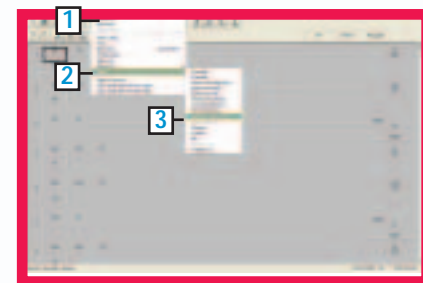

Figure 1
menu select Setup (2), then Setup Sec. Comm Port (3), as shown in figure 1.